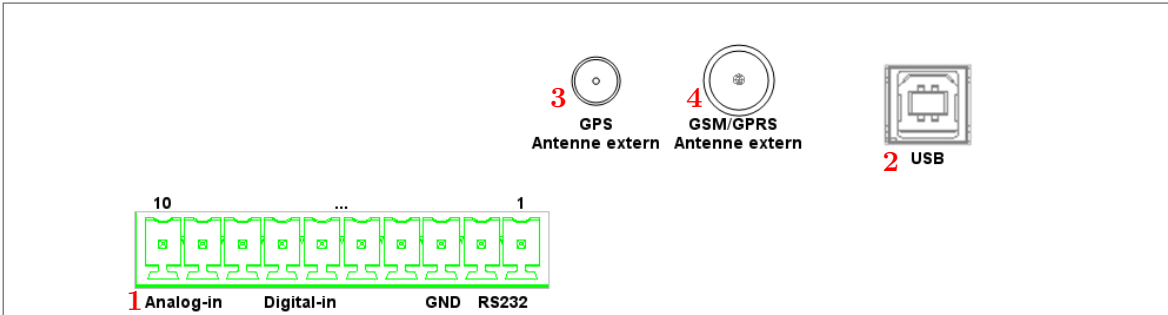

Figure 8: Backside edge connector of MDE-BoxIV
At position (4) at figure 7 is the SIM card slot for an integrated mobile communications modem. An external mobile aerial can be connected via the antenna socket (4) at figure 8.